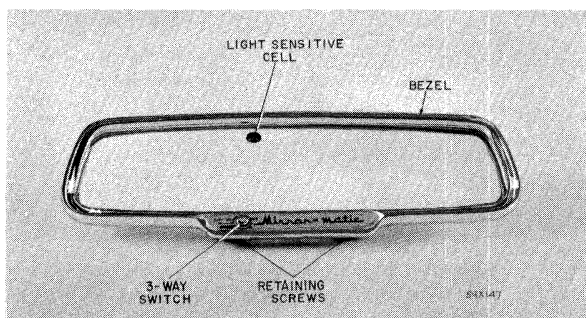

Fig. 36 — Mirror-Matic Rear View Mirror
The electronically operated rear view mirror (mirror-matic), as shown in Fig. 36 is a self-dimming rear view mirror which provides maximum rearward vision at night, since the bright reflection surface of the mirror is in use except when glaring light strikes its surface.
The electronic glare detecting mechanism is housed entirely within the mirror case. Sensitivity is selected by a three-position switch on the front of the mirror bezel (Fig. 36). "Off" locks the mirror in the normal "bright" position. Selection of either "City" or "Hi-way" switch position permits the mirror to respond to glare conditions. It is less light-sensitive when "City" has been selected and therefore response to neon signs, streetlights, etc. is held to a minimum.
The heart of the automatic tripping mechanism is a tiny photo-electric cell which "sees" through a small aperture in the silvered mirror surface (Fig. 36). Light striking the cell generates a small voltage which increases with increasing light intensity. When the light intensity becomes high enough to cause annoying glare, the voltage is enough to activate a miniature amplifier and solenoid assembly which pulls the prism mirror a few degrees upward to reflect a dim image off the front surface of the glass and into the driver's eyes. As long as glare is present, the mirror will remain in its "dim" position, returning immediately to its normal "bright" position when the glare drops below a pre-set level.
- (a) Remove plastic knob from 3-position switch (Fig. 36) by carefully pulling outward on plastic knob.
- (g) Install bezel by aligning slots at top of bezel with metal tabs and aligning screw holes in bottom of bezel with threaded holes in mirror support replace screws (Fig. 36) and tighten securely.